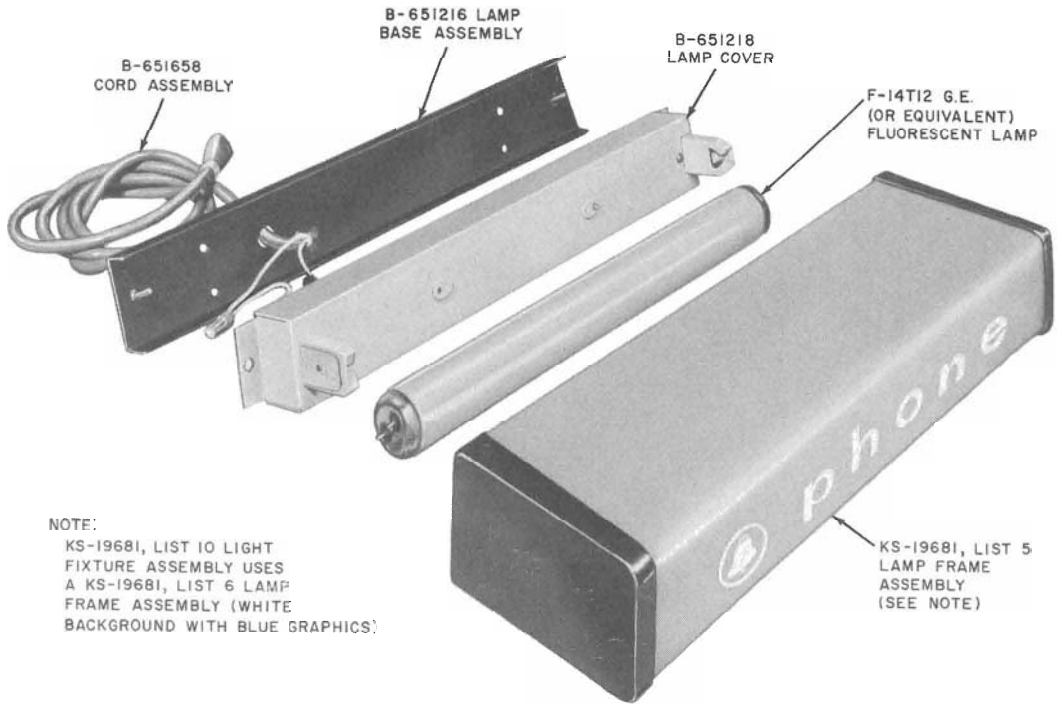

Fig. 6—KS-19681, List 9 Light Fixture Assembly
- (1) Remove tamper resistant screw at top center of shelf using a KS-19192, List 1 wrench.
- (2) Remove sign to the left and pull away from shelf.
- (3) Install new sign, using reverse procedure.
- 4.06** To replace KS-19681, List 9 or List 10 sign (Fig. 6) with same type sign:
- (1) Remove sign as in 4.05 (1) and (2).
- (2) Insert four plasti-grommet inserts (Fastex Div. of Ill. Tool Works No. 242-180602-90-0101-) (furnished with light fixture) in the four mounting holes.
- (3) Disassemble the sign to make wiring accessible (Fig. 6).
- (4) Remove wire nuts and disconnect lamp cord from ballast and lamp holder.
- (5) Run a fish tape through entrance hole in rear of shelf and down wire channel until it is accessible at bottom of shelf.
- (6) Tie lamp cord to fish tape and pull it up into position.
- (7) Install base assembly on shelf using the four No. 8 by 3/4 Phillips head self-tapping screws furnished with light fixture.
- (8) Reconnect lamp cord to ballast and lamp holder.
- (9) Install cover on base assembly.
- (10) Install fluorescent lamp (G.E. No. F14T12 or equivalent).
- (11) Install frame and diffuser and secure them with the four No. 8-32 by 1/2 stainless steel screws.
- (12) Plug lamp cord into wall socket.